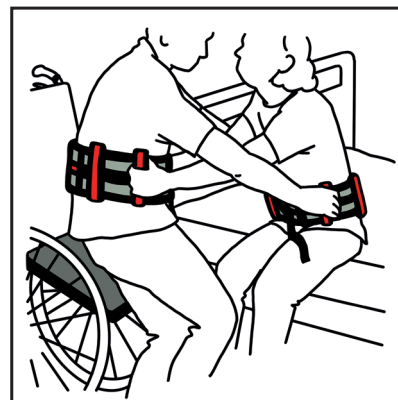

Figure 2
- To assist with standing from sitting, the helper(s) should position themselves to the side or in front of the user and take hold of the loops on the user's hip strap. If possible, the user should lean forward and assist the process themselves. The helper – or the helpers on both sides – can carefully pull the user up from sitting to standing (Figure 2).